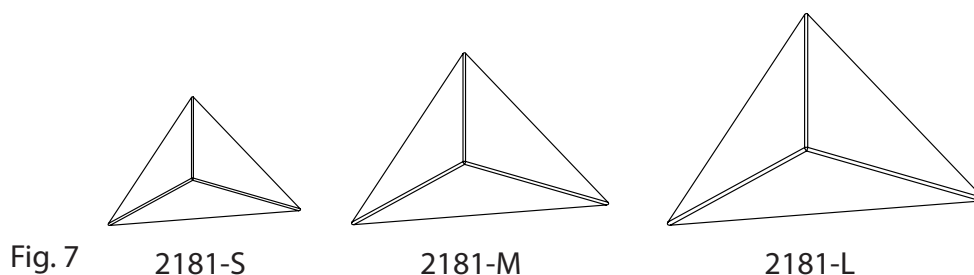

Fig. 7
13. Install triangle reflectors (Fig. 7) onto all fixtures (A). The reflectors are oriented to the legs and will only fit fully in one position (with the shortest peak aligned with the shortest leg). **Note:** The reflector is held in place by magnets and requires no tools.